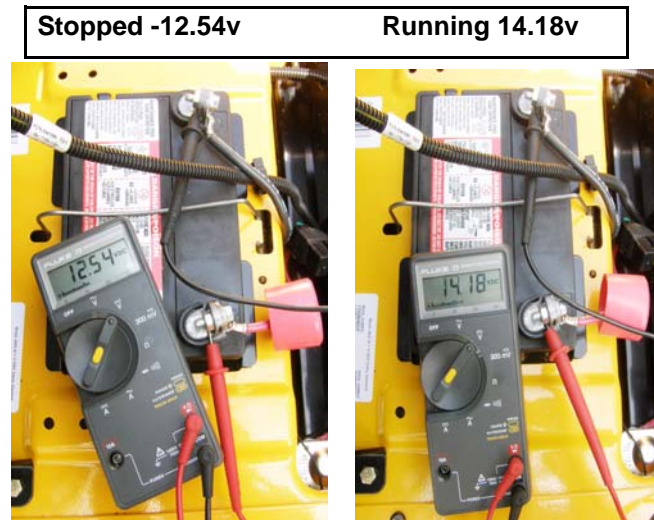

Figure 7.18
3. Quick check, to see if there is a problem. See Figure 7.18.